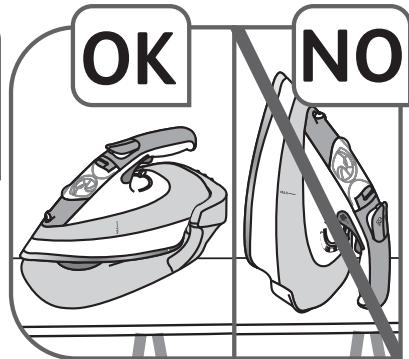

Fig.13
- Do not place the iron on its heel during the resting period, but on its base – **fig.13**.